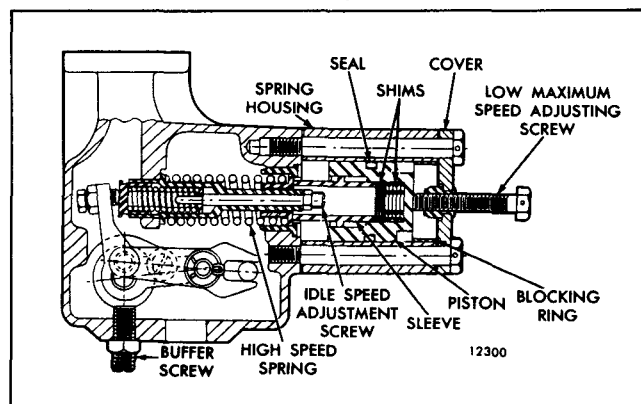

Fig. 5 - Dual Range Governor
With the spring housing assembly mounted on the governor, the piston and sleeve assembled with four .100" shims and ten .010" shims (Fig. 5) and the low maximum speed screw extending from the spring housing approximately 1-1/4", proceed as follows:
1. Refer to Fig. 5 and remove the spring housing to uncover the idle speed adjusting screw.
2. With the engine at normal operating temperature and with the buffer screw (Fig. 5) backed out to avoid contact with the differential lever, turn the idle speed adjusting screw until the engine is operating at approximately 15 rpm below the recommended idle speed. The recommended idle speed is 450 rpm, but may vary with special engine applications.